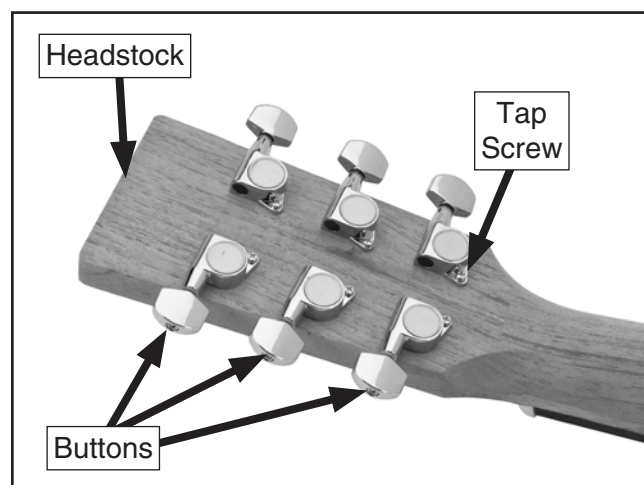

Figure 16. Correct tuning machine position.
- Slide each machine head through a hole in the headstock and secure with an M2.4 x 6 tap screw (see **Figure 16**).